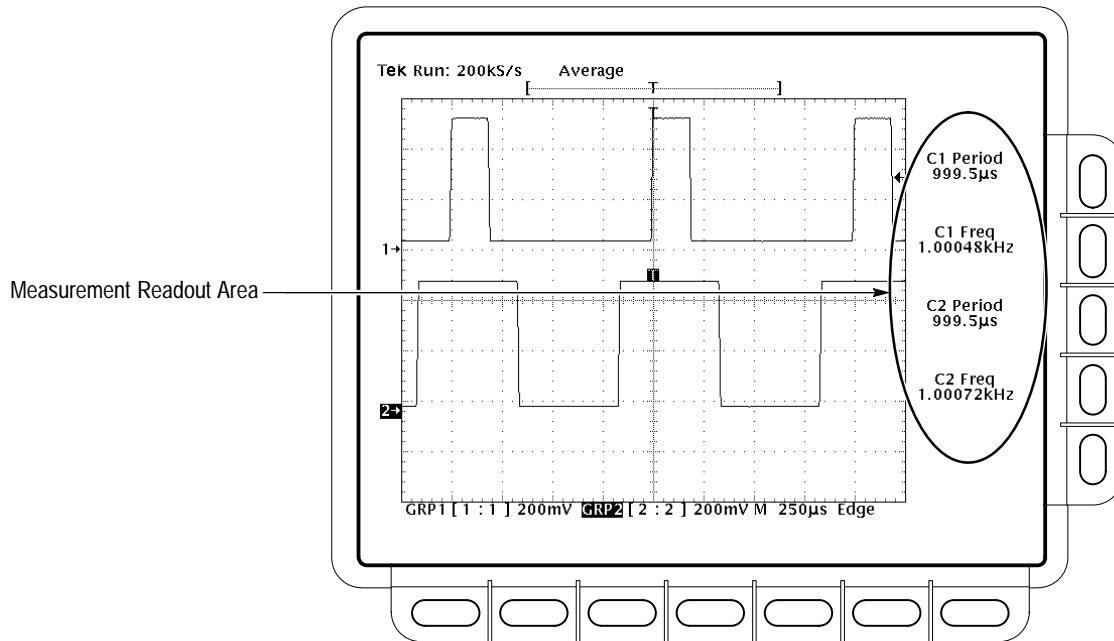

Figure 3-31: Measurement Readouts
- The logic scope displays up to four measurements at one time. See Figure 3-31. (There is also a way to display all the single-waveform measurements at once. See *Snapshot of Measurements* on page 3–78.)
**NOTE.** As you create measurements, they are displayed in the order created. Measurement 1 is the top readout, Measurement 2 is below it, and so on. (See Figure 3-31 on page 3–68.) Once you display a measurement readout, it stays in its position. It does not move upwards when you remove any readouts above it.